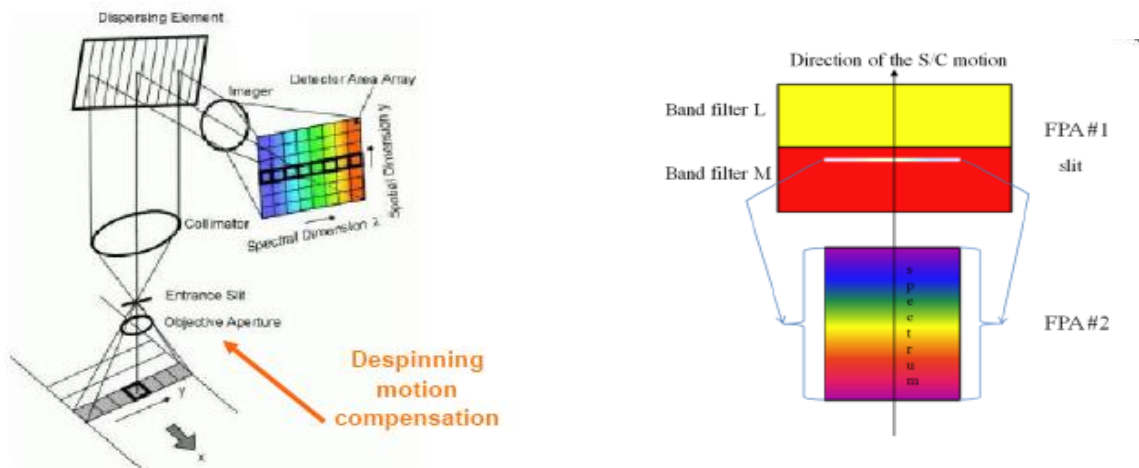

Fig. 1: the two FPAs
JIRAM combines two data channels in one instrument: the **imager** and the **spectrometer**, which are housed in the same optical subsystem (fig. 1). The instrument is composed of the Optical Head (OH) and the Main Electronic (ME). The ME contains the electronics to drive the Focal Plane Arrays (FPAs) and compensating mirror, and perform the acquisition and conversion of the science and housekeeping data. It also manages the operation of the two channels, gathers data and housekeeping information from them, stores the data, performs data compression, and interfaces the instrument with the spacecraft.